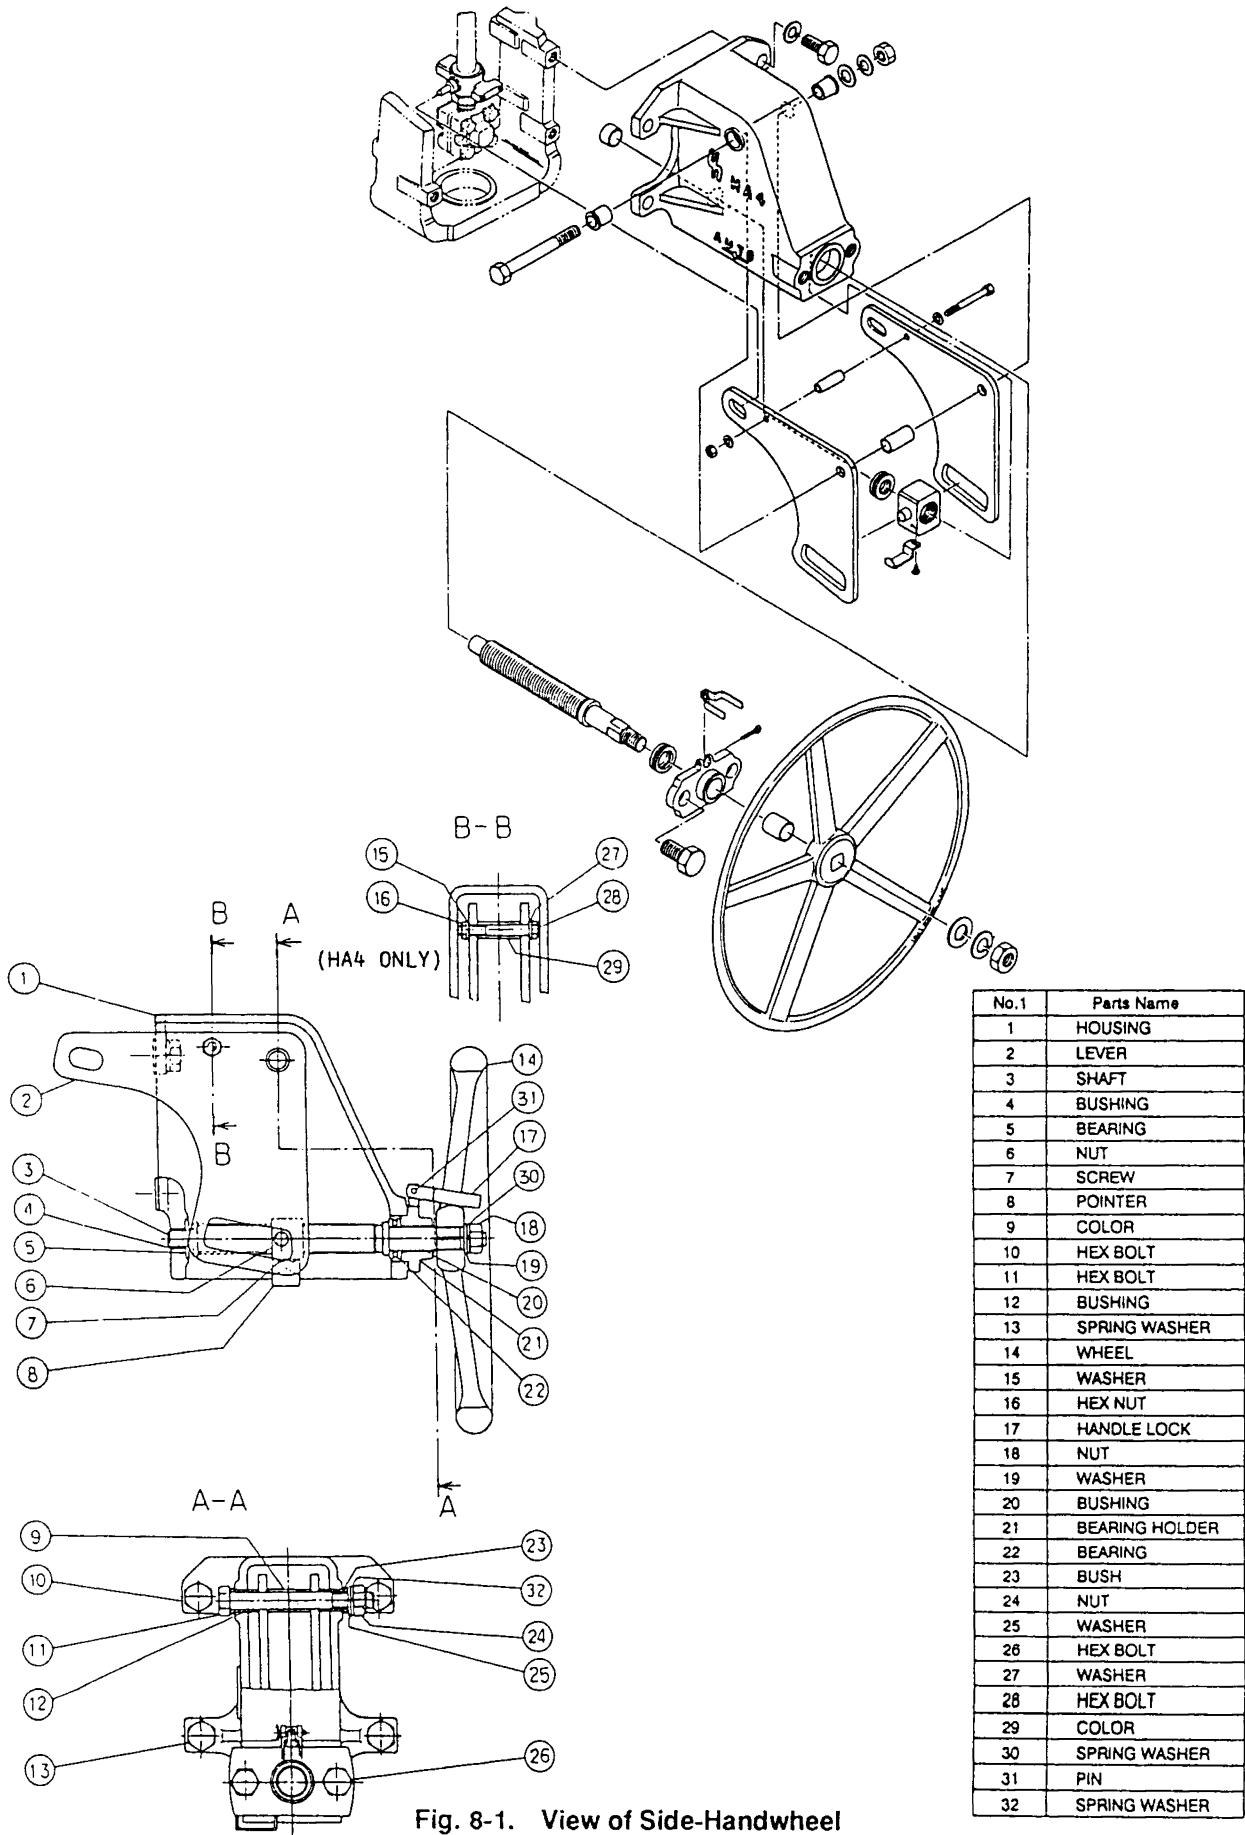

Fig. 8-1. View of Side-Handwheel
To install the side handwheel, refer to Fig. 8-1 and proceed as follows:
- (2) By turning the handwheel, set the pointer of the operation nut at the AUTO position.
- (3) Loosen the bolt (item number ⑥ as shown in Fig. 8-1) and widen the distance between levers.
- (4) Install the handwheel on the mounting pad at the back of the actuator, with the mounting-bolts.
- (5) Engage the holes at the end of two levers to the pointer boss and engage those of the other ends to the boss of the operation nut, and then tighten the bolt.
- (6) When the control valve is in the automatic mode of operation, set the pointer of the operation nut at the AUTO position and keep the handwheel locked.
8.3 Disassembly and Assembly of Side Handwheel (Refer to Fig. 8-1)
To assemble the side handwheel, refer to Fig. 8-1 and follow the disassembly procedure in the reverse order.